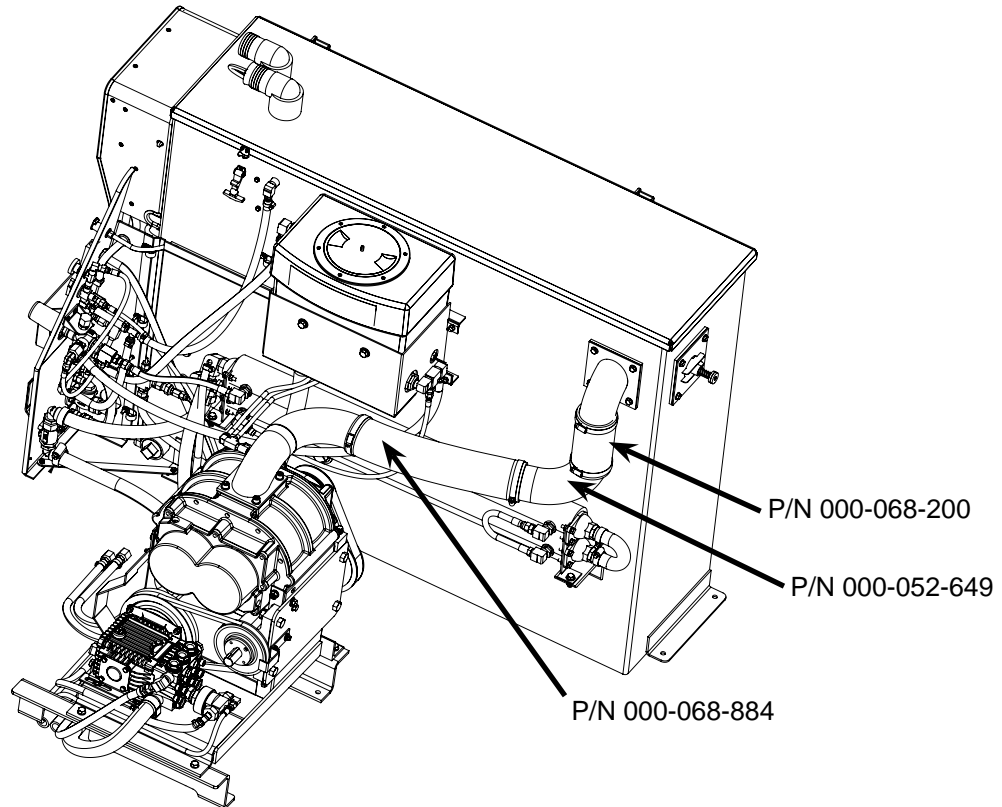

Figure 24. Install Hoses and Elbow Between Recovery Tank and Blower Inlet
1. Install the recovery tank using two pieces of hose and the elbow (P/N 000-052-649), shown in Figure 24, between the blower inlet and the elbow on the backside of the recovery tank.